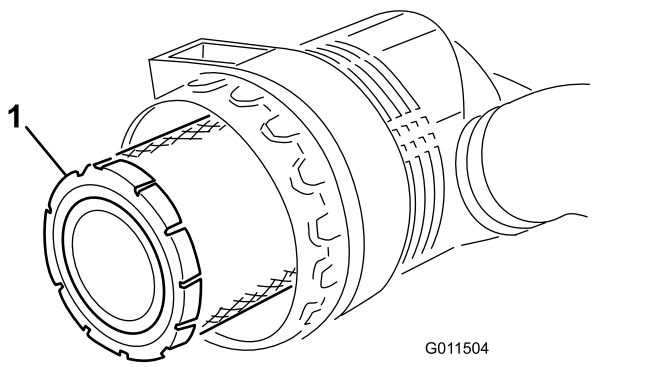

**Figure 45**
1. Pull the latch outward and rotate the air-cleaner cover counterclockwise (Figure 45).
3. Remove the cover from the air-cleaner body (Figure 45).
11. Install the cover by positioning the rubber outlet valve (Figure 45) downward, between approximately 5 o'clock to 7 o'clock when viewed from the end.